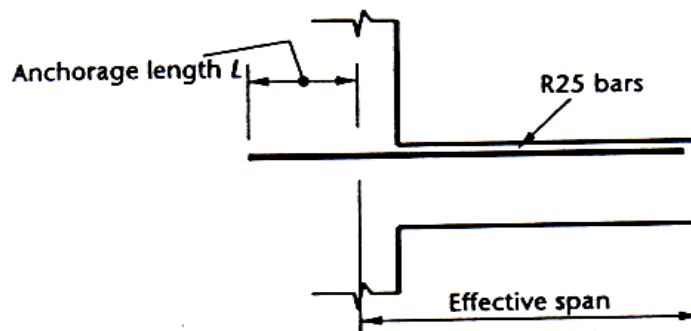

Figure 3.2
- b) Determine the length of tension anchorage required for the 25 mm diameter plain mild steel reinforcing bars in the cantilever beam as shown in Figure 3.2. The characteristic materials strengths are  $f_{cu} = 30 \text{ N/mm}^2$  and  $f_y = 250 \text{ N/mm}^2$ .